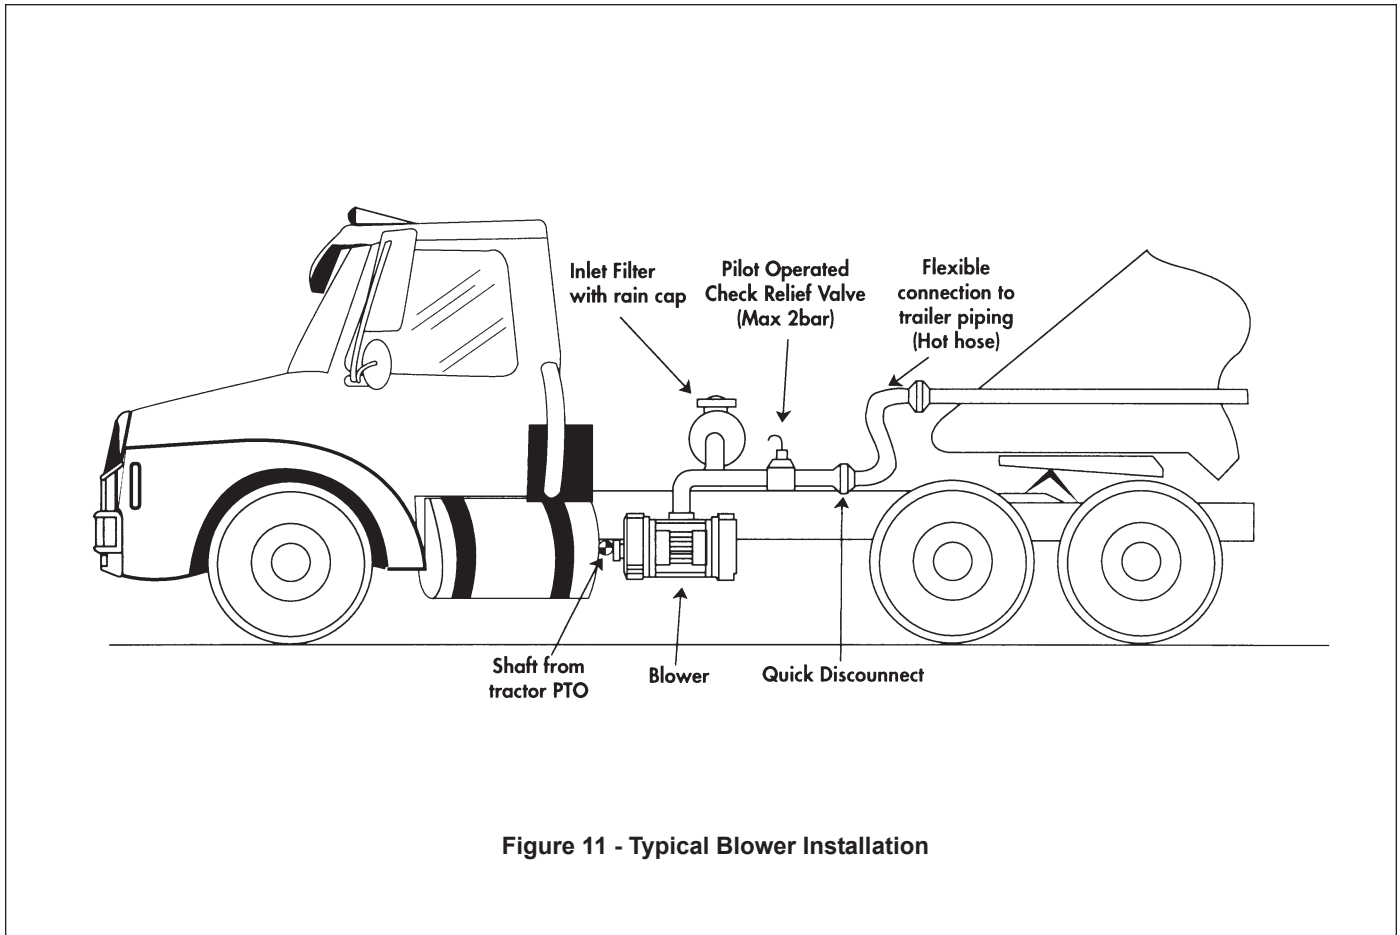

Figure 11 - Typical Blower Installation
9. For additional recommendations in the piping and installation of the blower refer to Figure 11 (above) - “Typical Blower Installation” and the following “Accessories” section of this manual.